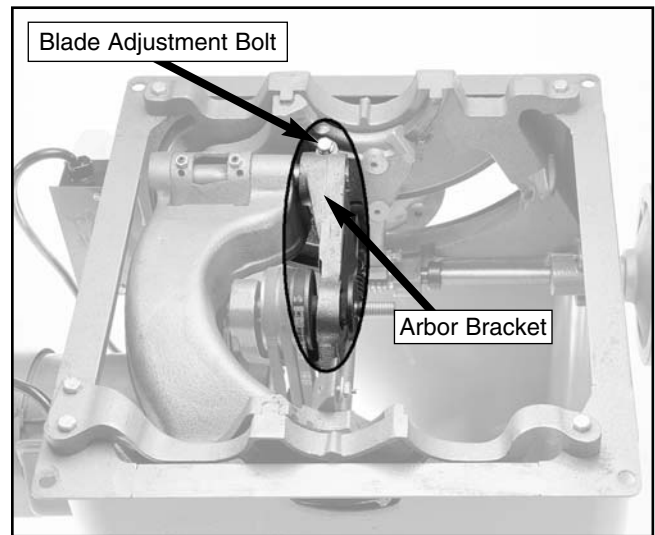

Figure 23. Arbor bracket adjustment locations.
9. Loosen the adjustment bolt shown in **Figure 23**, and slowly slide the arbor bracket towards the end of the shaft. *Only move the arbor bracket a distance equal to the amount of misalignment between the blade and the splitter, or a little more. You can always adjust the splitter back to the left with washers.*